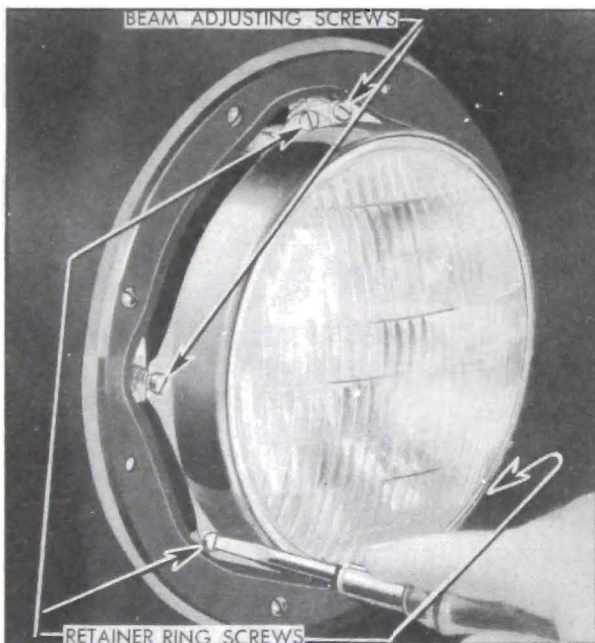

Figure 10-70—Removal of Sealed Beam Unit Retainer Ring
2. Remove the three retainer ring screws but do not disturb the two beam adjusting screws, then remove retainer ring. See figure 10-70.